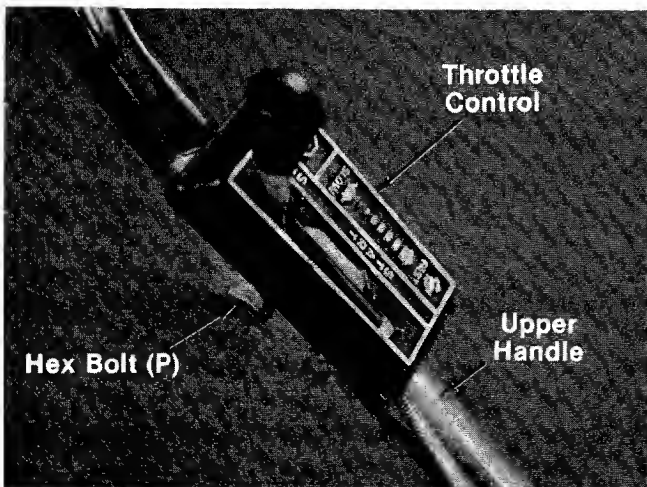

FIGURE 10.
4. Place the throttle control in position on **right** side of upper handle. Secure with hex bolt (P) and lock nut (Q). See figure 10.